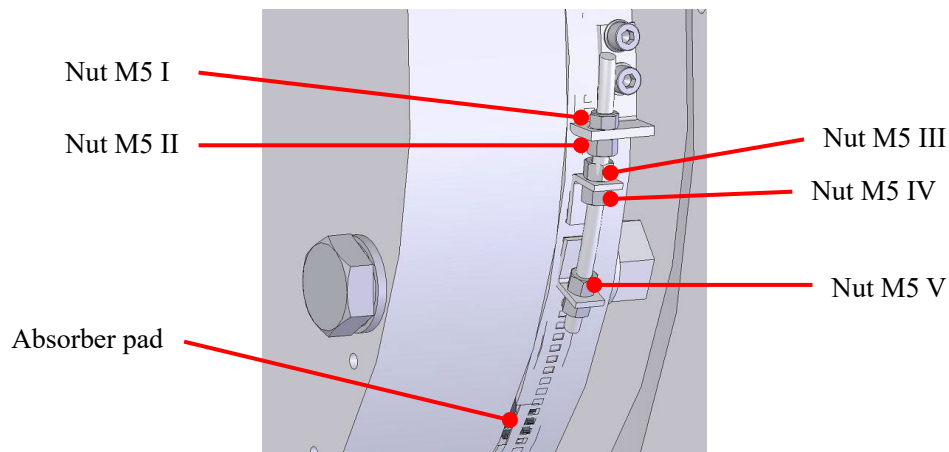

Figure 55 Brake Noise Adjustment Ring
1. If the Brake Noise Adjustment Ring is broken loosen Nut M5 III and remove Nut M5 I. See Figure 55.